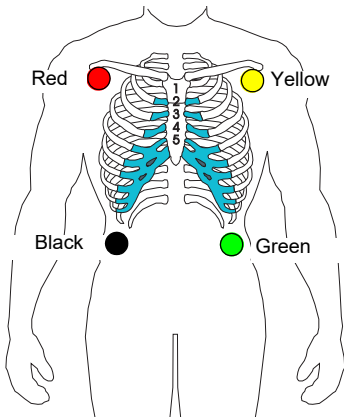
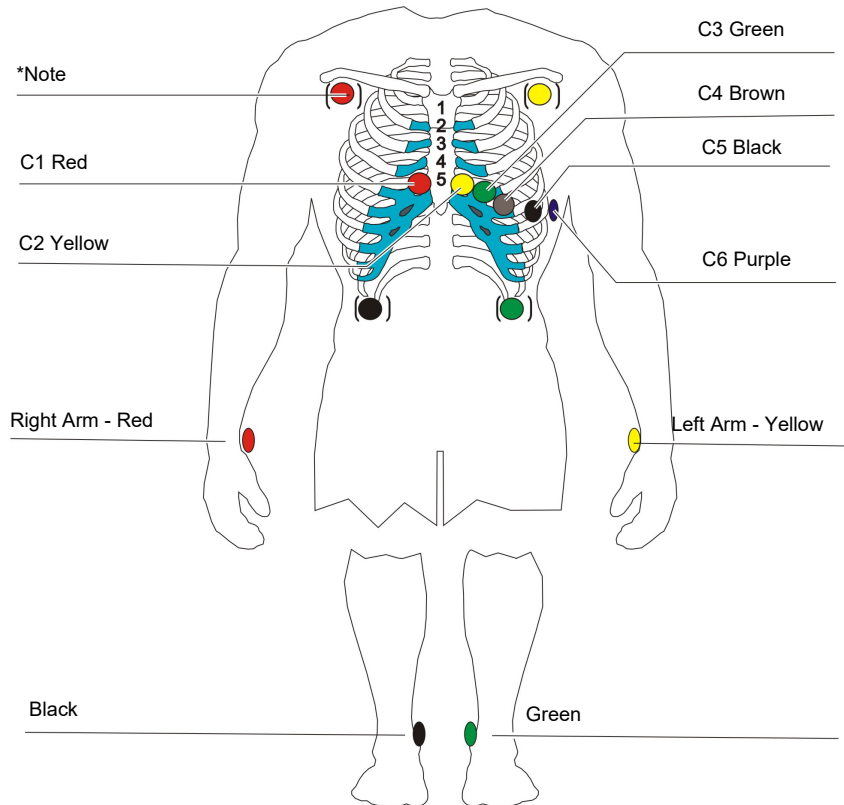

Fig. 4.4 4-wire cable
Fig. 4.5 10-wire cable
1. Apply the electrodes as shown in Fig. 4.4 or Fig. 4.5.
1. Apply the electrodes of the 10-wire ECG cable as shown in Fig. 4.5.
1. Apply the electrodes of the 4-wire ECG cable as shown in Fig. 4.4.